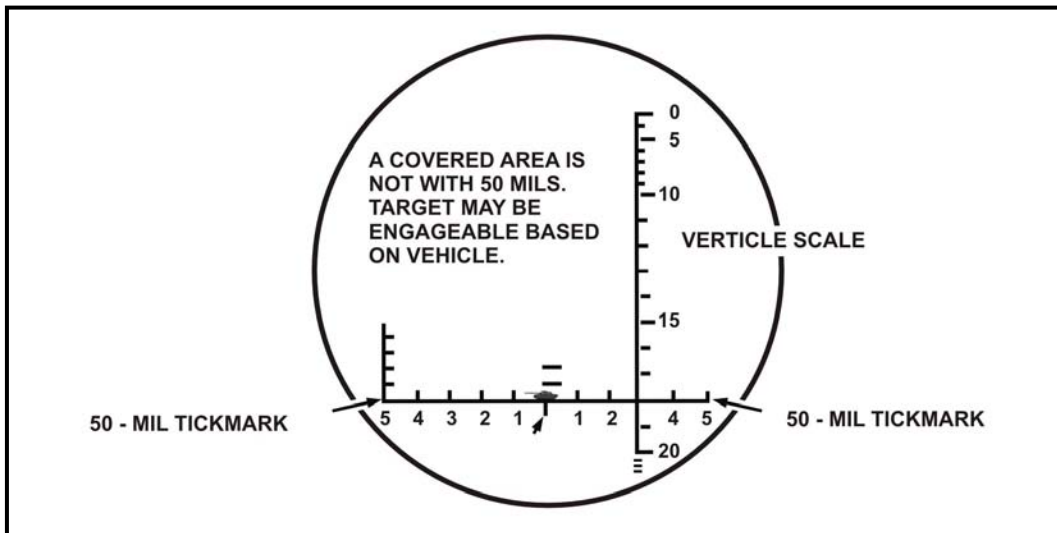

Figure 4-6. Binocular reticle method.
(1) Place the zero tick mark of the horizontal scale at the center of the vehicle.
(2) If the area between the vehicle and the 50-mil tick mark is clear of obstructions in the direction of travel, the target is engageable (Figure 4-6).